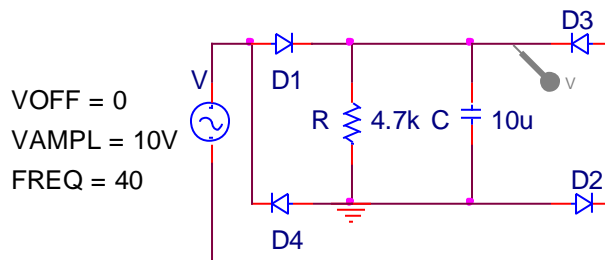

Fig. 8 Bridge rectifier circuit with filter capacitor
Here  $V_D$  is the typical diode drop of about 0.7V. In order to reduce  $V_r$  and increase  $V_o$ , usually a capacitor is attached in parallel with R. Fig. 8 shows this circuit. Assume that the time-period of the signal is T.
2. Attach a 10 $\mu$ F capacitor in parallel to RL (as in Fig. 8) and observe the output. Now measure ripple voltage ( $V_r$ ) and the conduction time ( $\Delta t$ ) using the cursers. There are two cursers, voltage and time. Measure the mean-value of the output in DC-coupling mode.